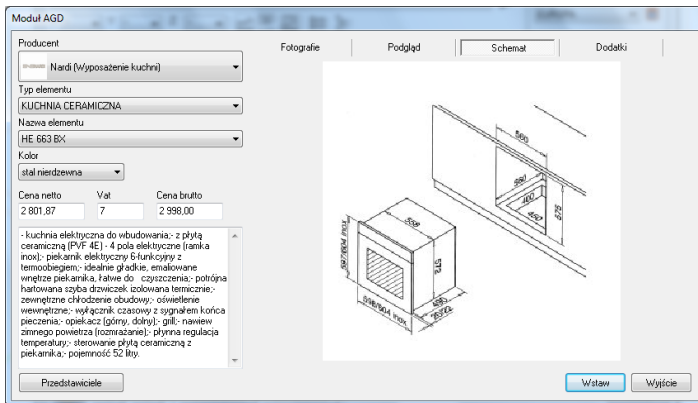

Fig. 143 – checking the assembly scheme for cabinets dimensions
- In this module select the manufacturer's database and then the desired object to insert, and press **Insert** (Fig. 143);
- You can check dimensions and additional elements for each model (Fig. 143);